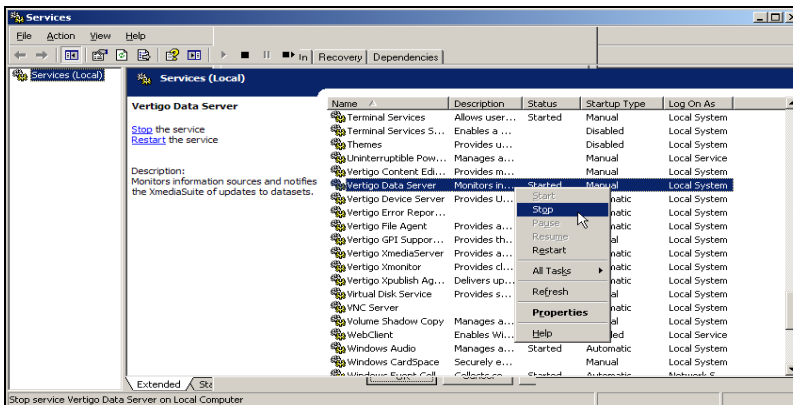

Figure 6-15. Stop the VXDataServer service
5. Right-click on the **VERTIGO DATA SERVER** heading and select the **STOP** command (figure 6-15).